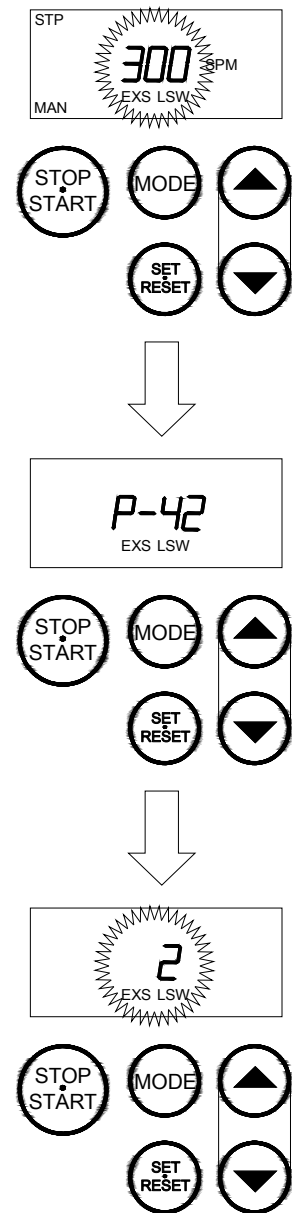

Fig.12-3 Parameter setting
- 1) Press the TOUCH KEY stop, start. Pump operation stops. The indication on the LCD is as shown at the upper stage of Fig.12-3.(The parameters can be set in any operation mode.)
(The indication on the LCD should be as shown at the middle stage of Fig.12-3.)
- 3) Press the TOUCH KEY set, reset, then the indication on the LCD becomes as shown on the lower stage of Fig. 12-3, and the number flashers.